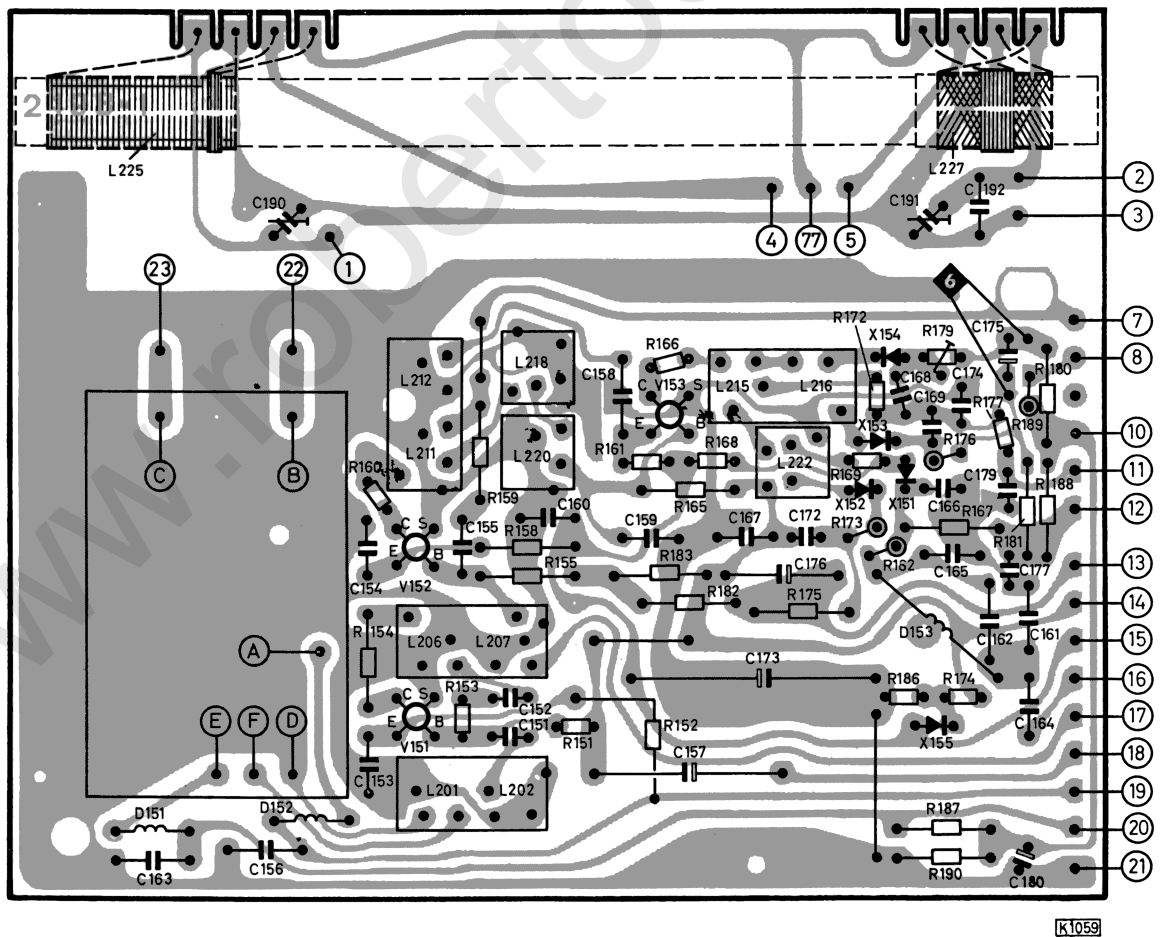

Fig. 7
- 6.2 For FM alignment connect voltmeter ($R_i \geq 50 \text{ k}\Omega/\text{V}$) in parallel to C 175, <6> Fig. 7.